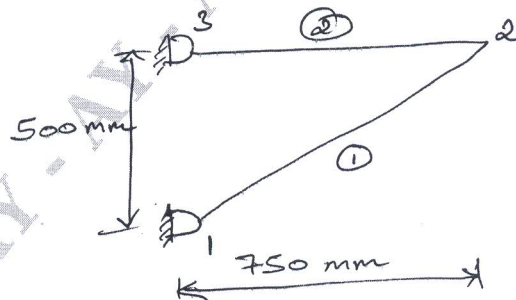

Fig.Q4(b)
- A truss shown in Fig.Q4(b) made up of 2 bars. Determine nodal displacement, stress in each element. Take  $A_1 = 1200\text{mm}^2$ ;  $A_2 = 1000\text{mm}^2$  and  $E = E_1 = E_2 = 2 \times 10^5\text{MPa}$ .